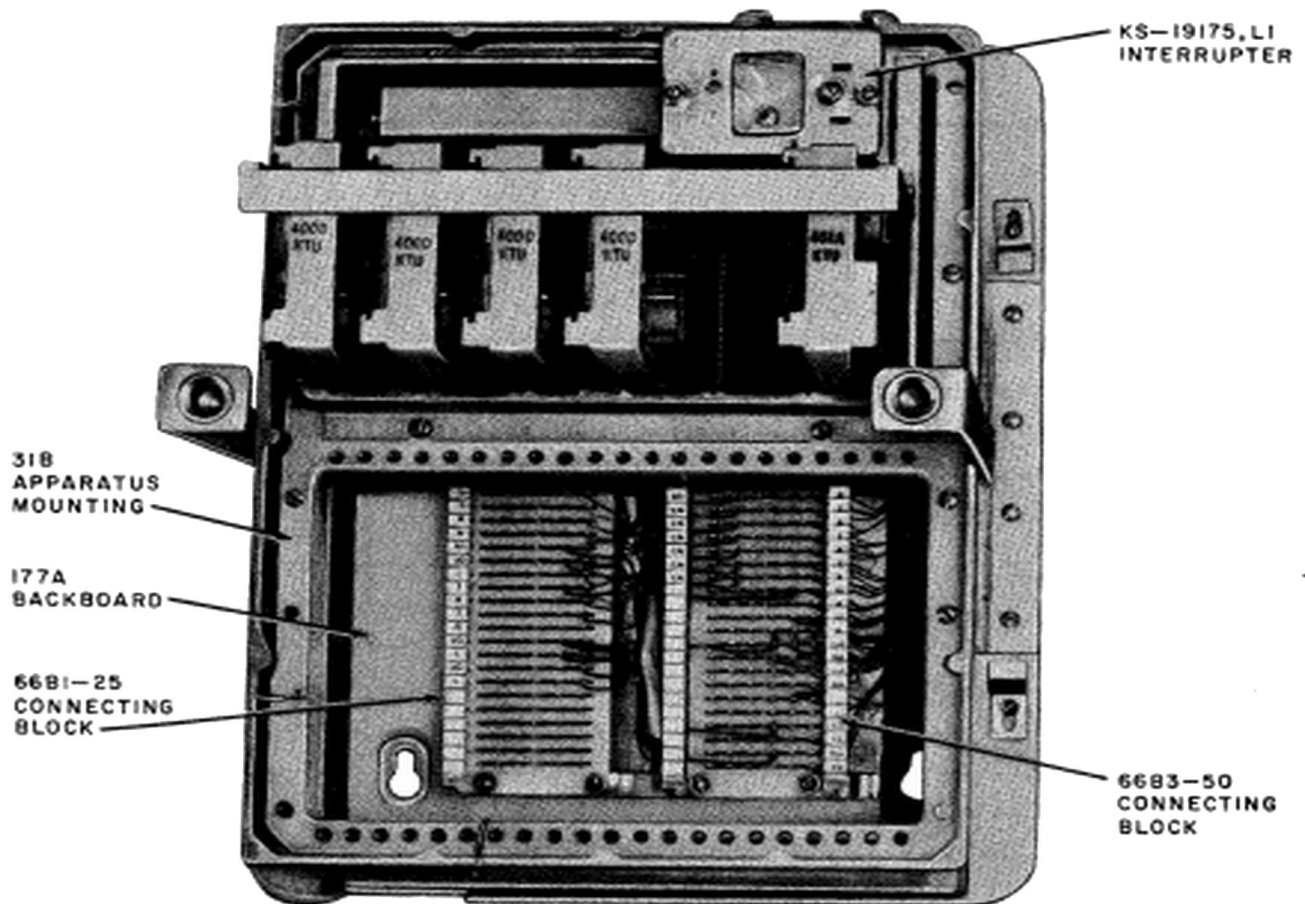

Fig. 1—501-Type KSU, Front View With Cover Removed
2.01 These units are factory wired 6-line capacity 1A2 Key Telephone System packages (Fig. 1) arranged to receive plug-in type 400 series key telephone units (KTUs). Information concerning individual 400 series KTUs can be found in section covering each unit.